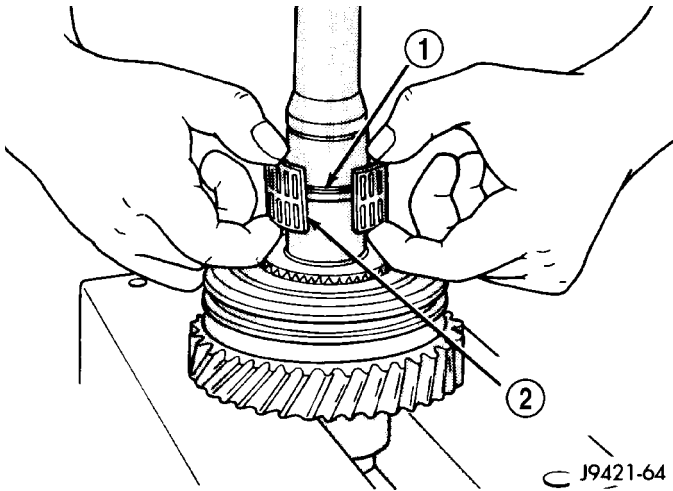

Fig. 60 FIFTH GEAR BEARING
(8) Install fifth gear bearing by spreading bearing, just enough to clear shoulder on the output shaft (Fig. 60). Verify bearing is properly seated.